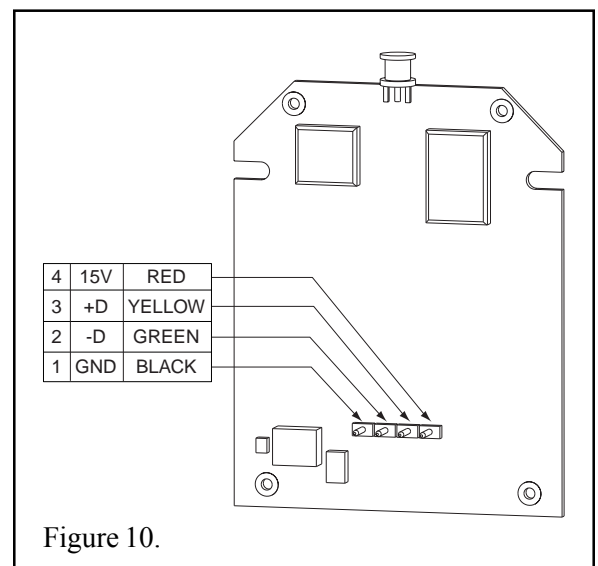

Figure 10.
6. Strip the leads of the wires about 1/4 in. and attach to controller screw terminals of terminal plug as shown in Figure 10. Carefully slide the circuit board back into the back plate and connect the terminal plug.